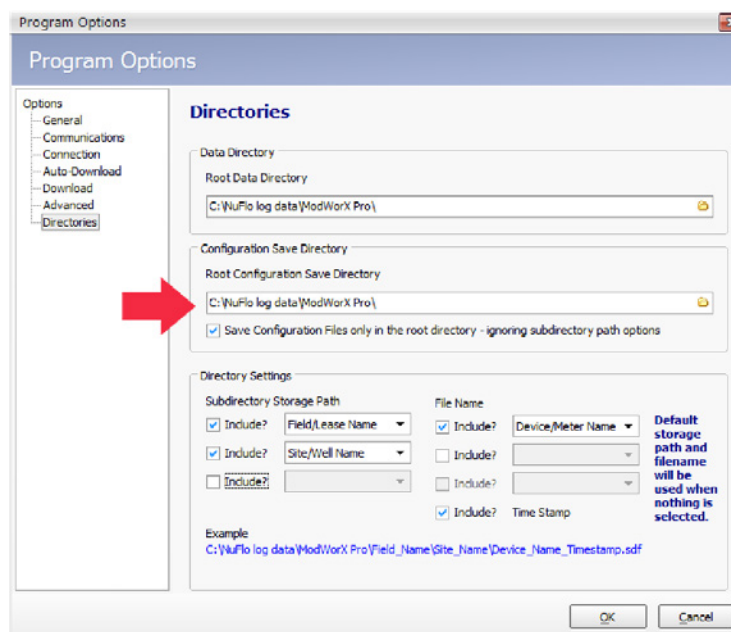

Figure 14.7
4. To change the directory to which configuration data is saved, click in the Configuration Save Directory portion of the dialog (Figure 14.7, page A-19) and type the desired filepath or click the Folder icon to browse to the desired directory.